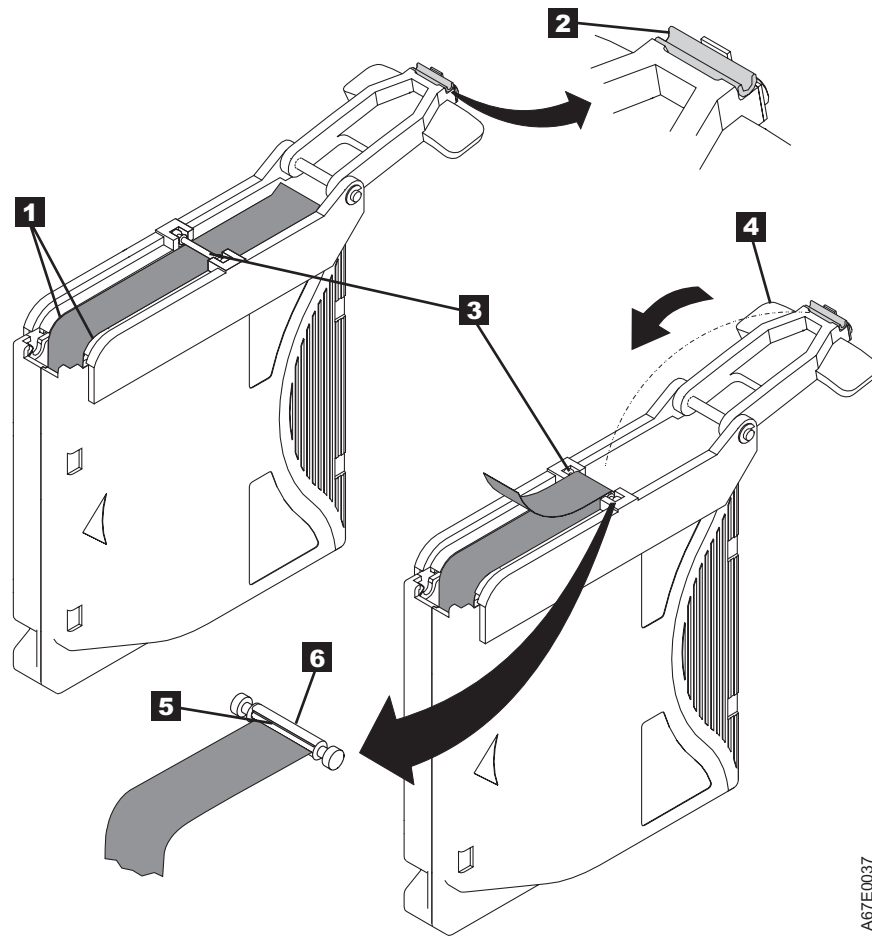

Figure 51. Attaching the leader pin to the tape
7. Position the tape in the alignment groove of the leader pin attach tool (see **1** in Figure 51 on page 169).
Attention: To prevent the leader pin from rolling into the cartridge, in this step, use care when folding the tape over the pin. Fold the tape over the leader pin and hold it with your fingers (see Figure 51 on page 169).